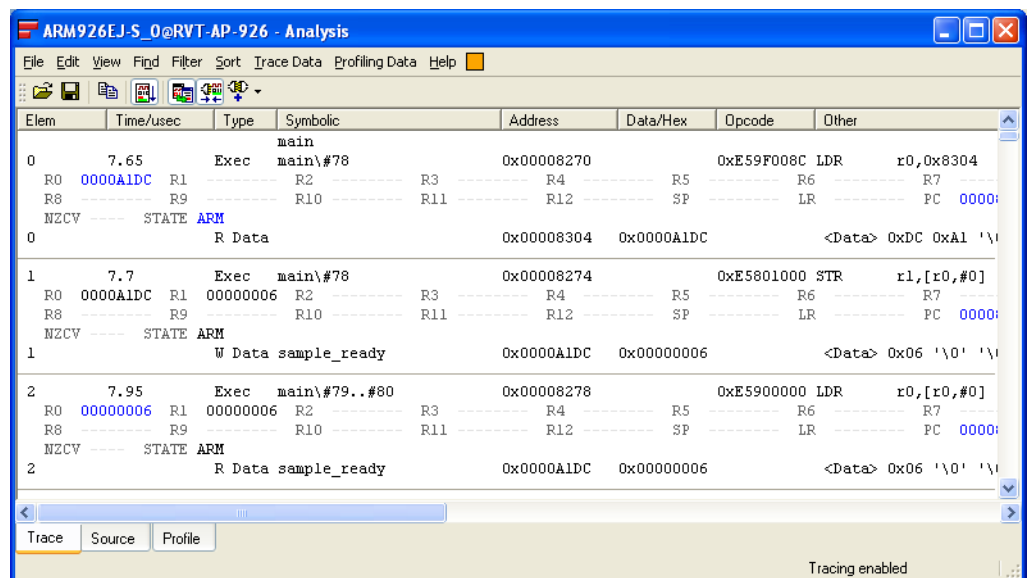

Figure 10-52 Inferred registers in the Trace tab
2. Select **Trace Data** → **Inferred Registers** from the Analysis window menu. The inferred registers and instruction boundaries are displayed. Figure 10-52 shows an example